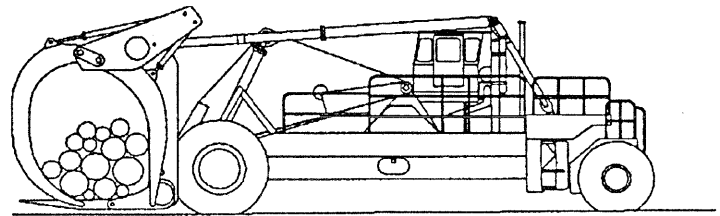

Fig 4-8
1. To unload the carriage for scaling or sorting, leave the carriage level or tilted slightly back. Lower the boom until the carriage is as close to the ground as possible. See Fig. 4-8.